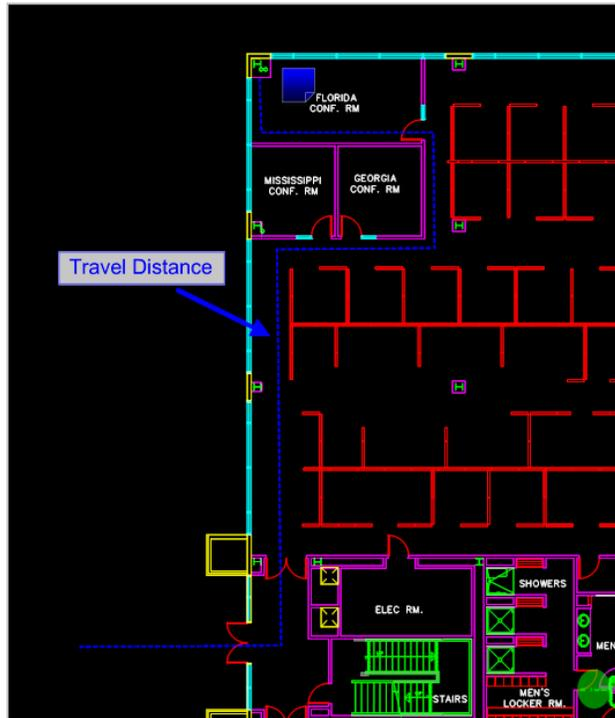

Figure 20.4 Verify Egress
- 9) Click the **Line** tool, select the polyline tool and trace the path from the Florida Room to the first available exit (as show in Figure 20.4).
- 10) From the **Properties** toolbar, select the dot style and the desired width for the line (Figure 20.4)